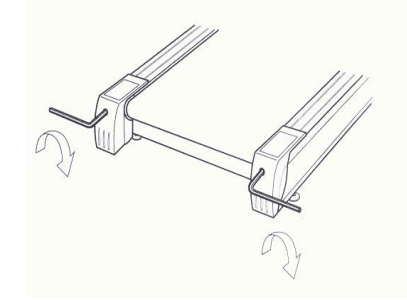

Figure 3
3. **Running belt is slipping during use (Figure 3)**